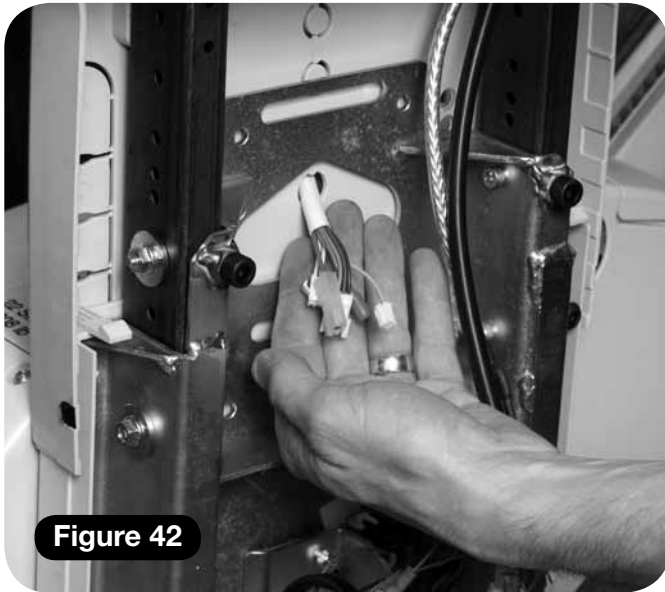

Figure 42
- 4 Remove the lowest of the available central knockouts from the top rear cover and feed through the main pack loom (**Figure 42**).